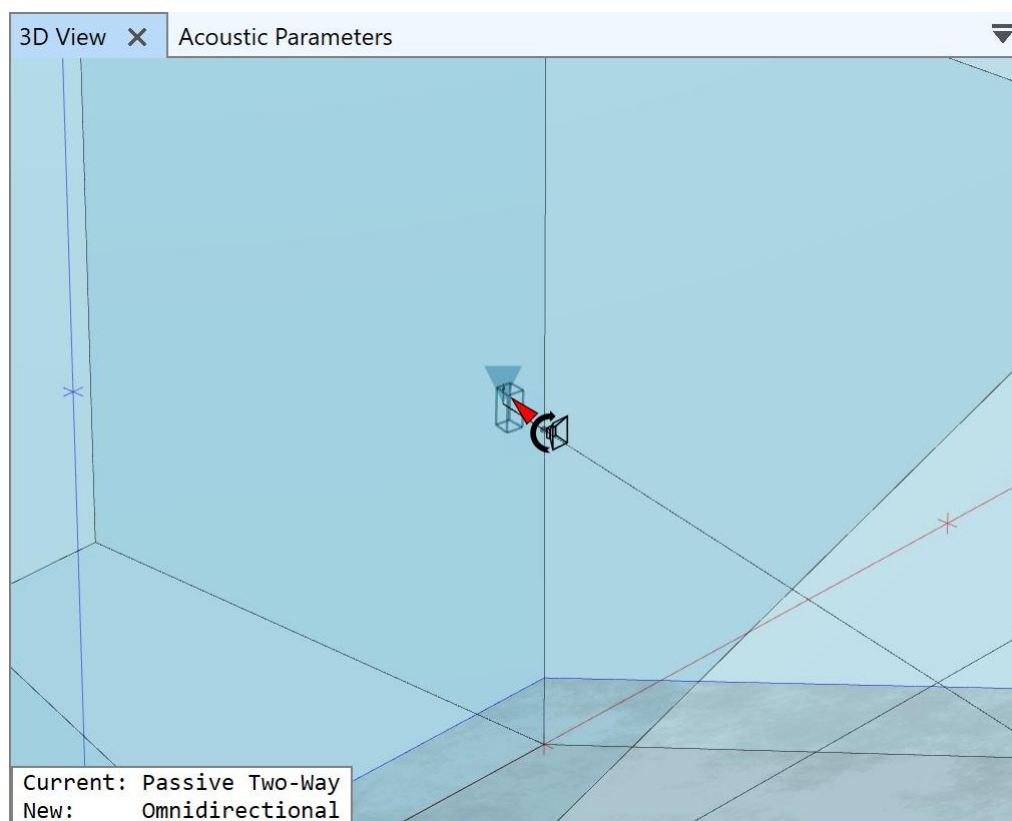

Figure 9.7 Replacing the speaker model of a loudspeaker. The status text shows the current speaker model and the new one.
1. Assuming that no loudspeakers are selected, choose a new speaker model from the search list or tiles display. This will activate a mouse mode and the mouse cursor will change to the  symbol accordingly to indicate the mode. When in this mode, hovering over a loudspeaker in the room model will show its current speaker model as well as the potentially new one in the status text (Figure 9.7). Left-clicking on the loudspeaker will replace the speaker model. The mode remains activated to allow switching several loudspeakers in a row.